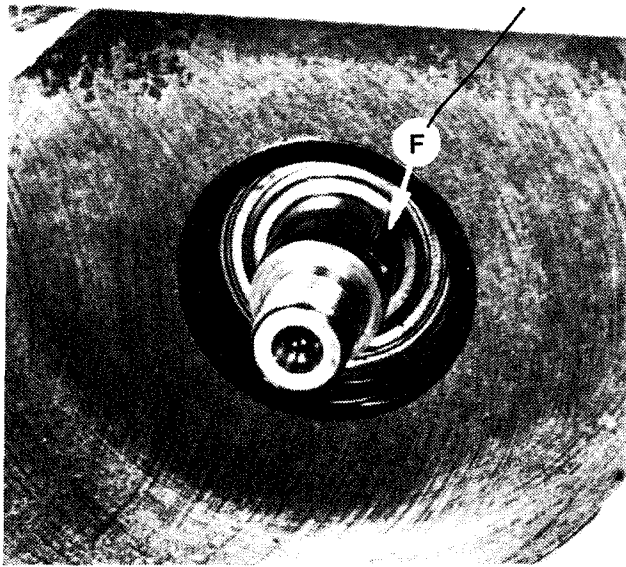

Figure 1.19 - Pinion Shaft and Key
21. Remove key "F", Figure 1.19 .
5. Install key "F", Figure 1.19 .